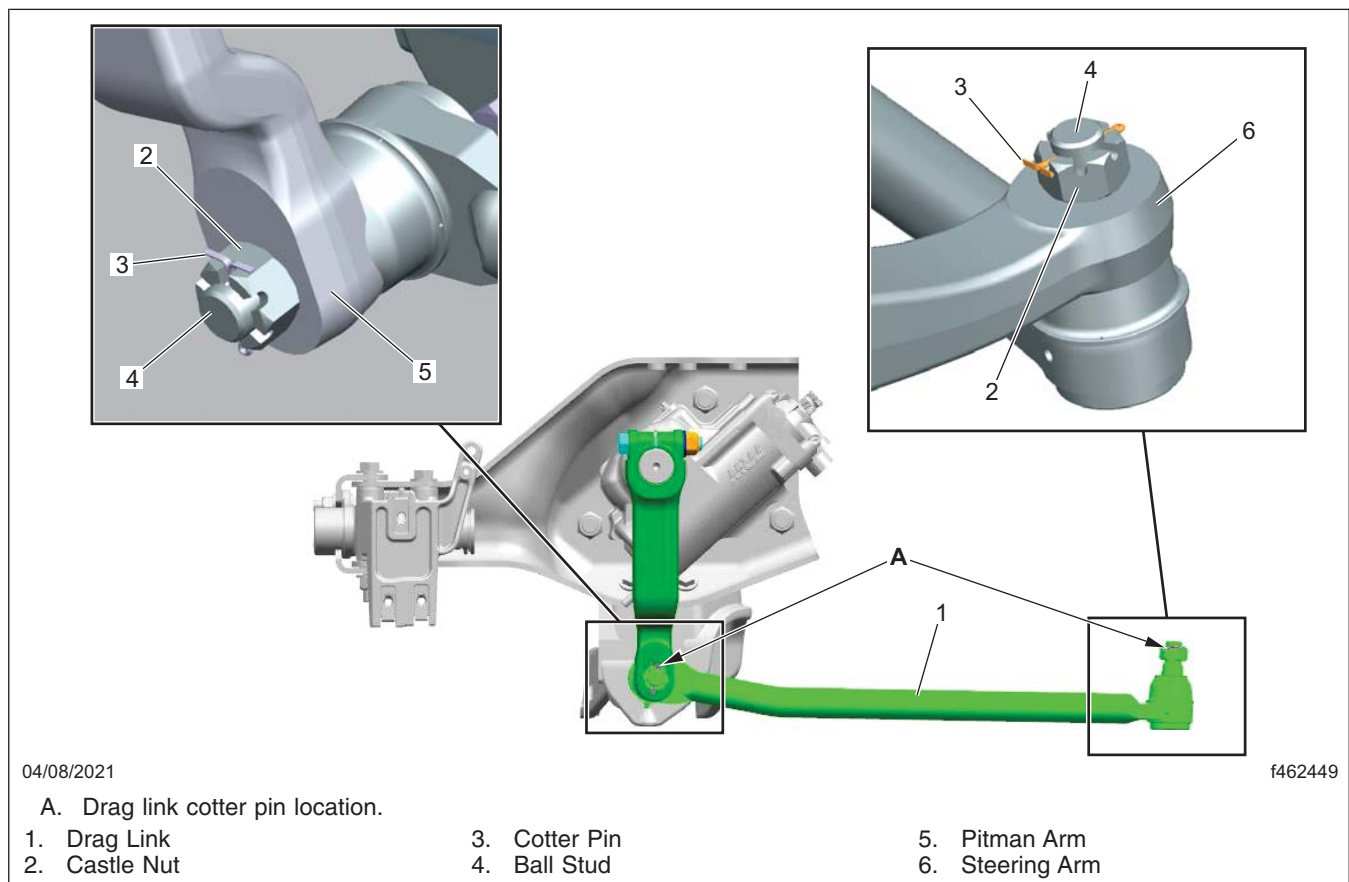

Fig. 2, Drag Link Cotter Pin Location
6. Remove and discard the cotter pin from the castle nut at the drag link to steering arm joint, then tighten the castle nut to the torque value shown in **Table 3**. See **Fig. 2**.
1. At both ends of the drag link, remove the cotter pins, then remove the castle nuts. See **Fig. 2**. Discard the cotter pins and castle nuts.
10. Install and lock a new cotter pin on the castle nuts at both ends of the drag link. See Fig. 2, on page 12.